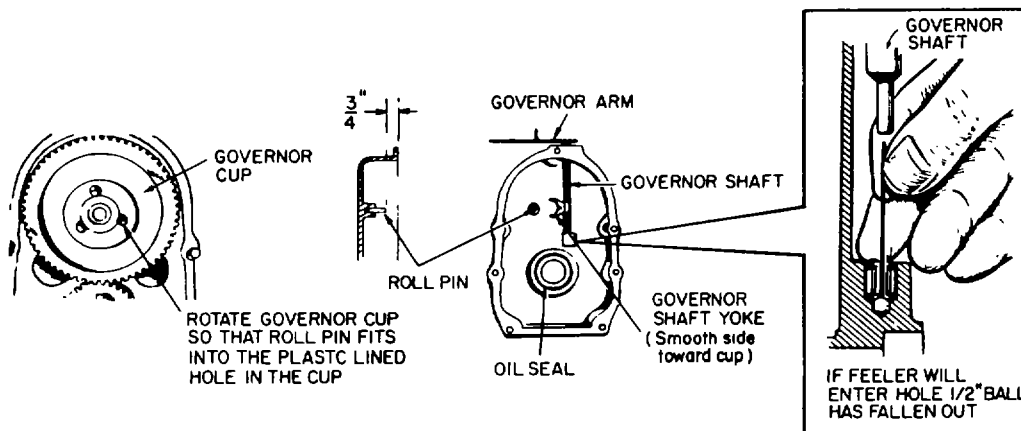

Figure 6-11. Gear Cover Assembly Installation
a. General. After removing the flywheel (127) and flywheel key (202), the gear cover (135) can be removed.
c. Repair. Replace leaking oil seal gasket (148) or defective governor shaft and arm (138), governor shaft yoke (139) or roll pin (137).
d. Installation (figure 6-11).
(1) Prior to installing the gear cover assembly to the engine, adjust the stop pin to protrude to a point 3/4-inch (1.91cm) from the cover mounting surface. Also use a feeler to check 1/2-inch (1.27cm) ball. Replace missing ball (fig. 6-11).
(2) Turn the governor cup so that the plastic lined hole is at the three-o'clock position. The smooth side of the governor yoke must ride against the governor cup.
(3) Turn the governor arm and shaft clockwise as far as possible and hold in this position until the gear cover is installed flush against the crankcase.